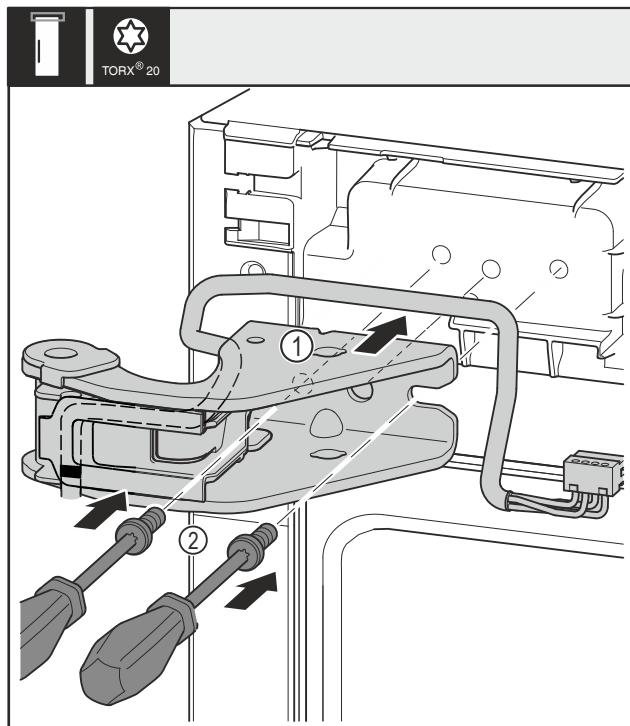

Fig. 31
- ▶ Place the top swap bearing block Fig. 31 (1).
- ▶ Use screwdriver to insert the screws Fig. 31 (2) and tighten them.